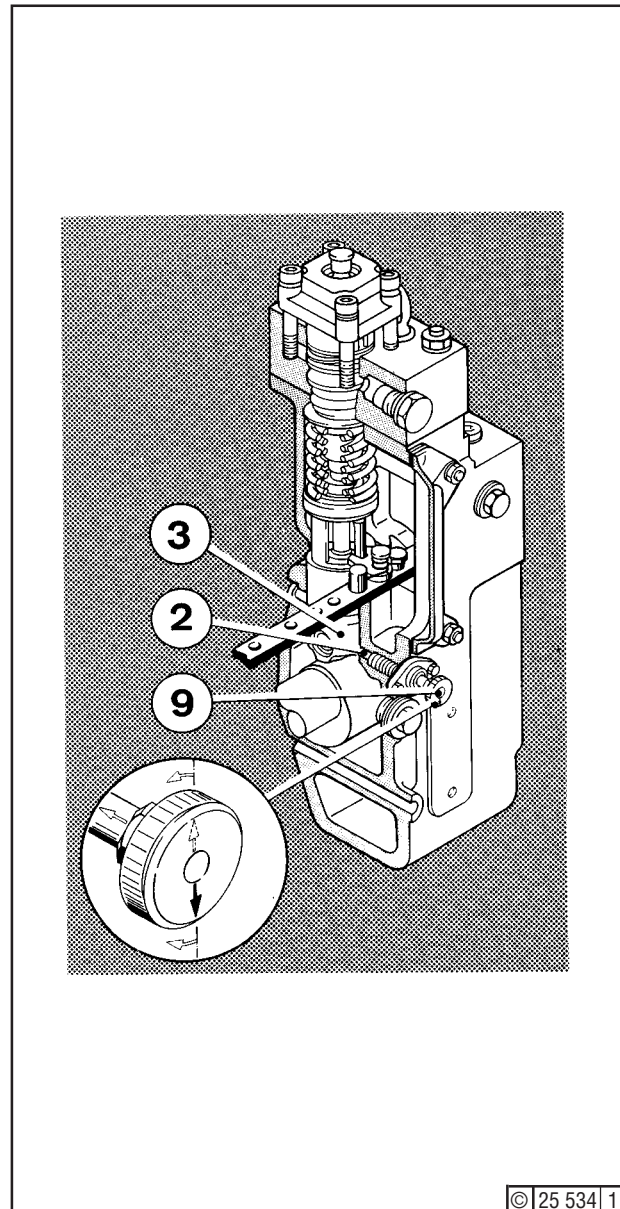

Fig. 2
- At the same time, a second person presses the relevant knurled nut (9) - Fig. 2 - against spring pressure until pin (2) is positioned under roller tappet bush (3).